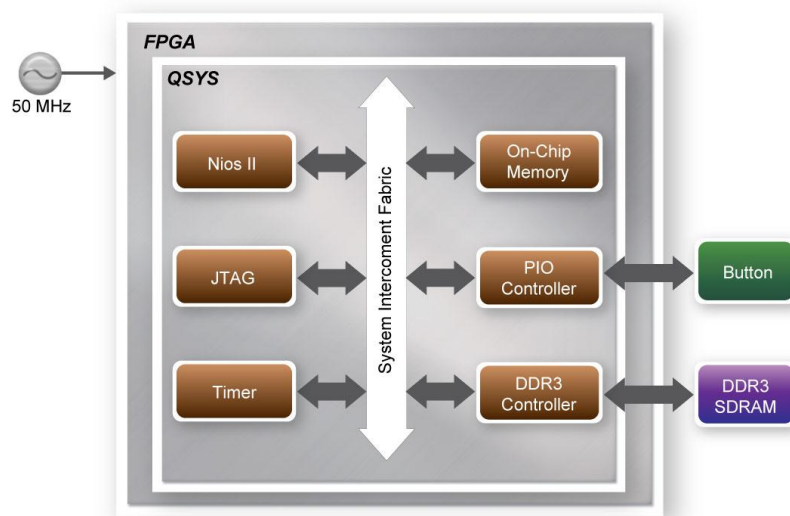

Figure 5-7 Block diagram of the DDR3 1G demonstration
- Make sure DDR3-SDRAM SODIMM (1G) is inserted into your TR4 board, as shown in **Figure 5-7**.